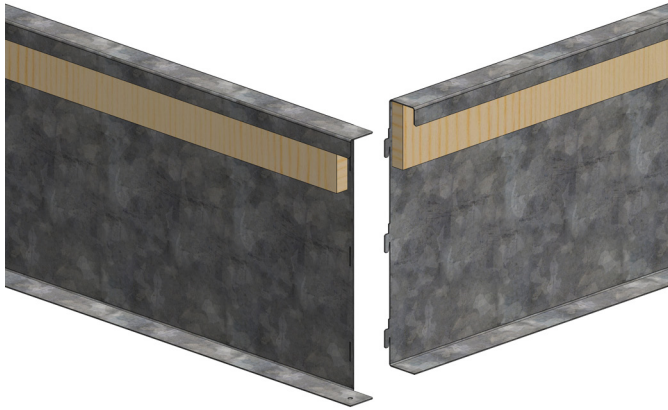

Fig. 1 - Side & End Assembly
- Bring together a curb side, and a curb end. Simply fit the tab into the slot, and with minimum pressure, the corners securely lock into place. See Figure 1. Be certain not to join incorrect pieces. This style curb requires much more effort to disassemble. Do not strike with too much force and damage the curb. Repeat for the assembly of all corners.